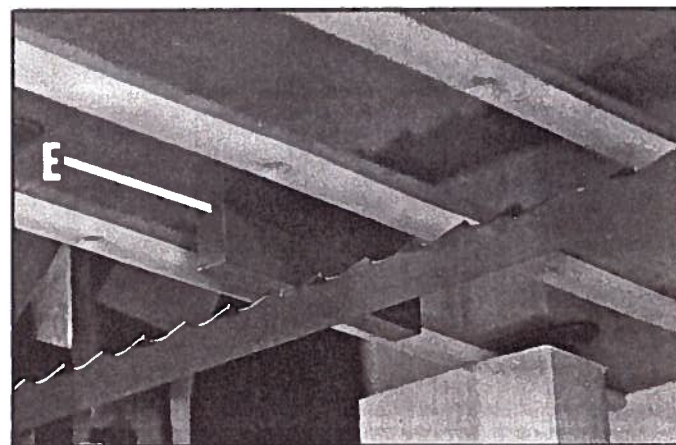

Fig. 32
9. To check if the blade guide rollers are providing the necessary 1/8" downward pressure on the blade, hold the special gage (E) Fig. 32, against the bottom of the platen and see if there is 1/8" clearance between the bottom of the gage block (E) and the blade. Check on both ends of the platen. If an adjustment to the blade guide rollers is necessary, proceed as follows: